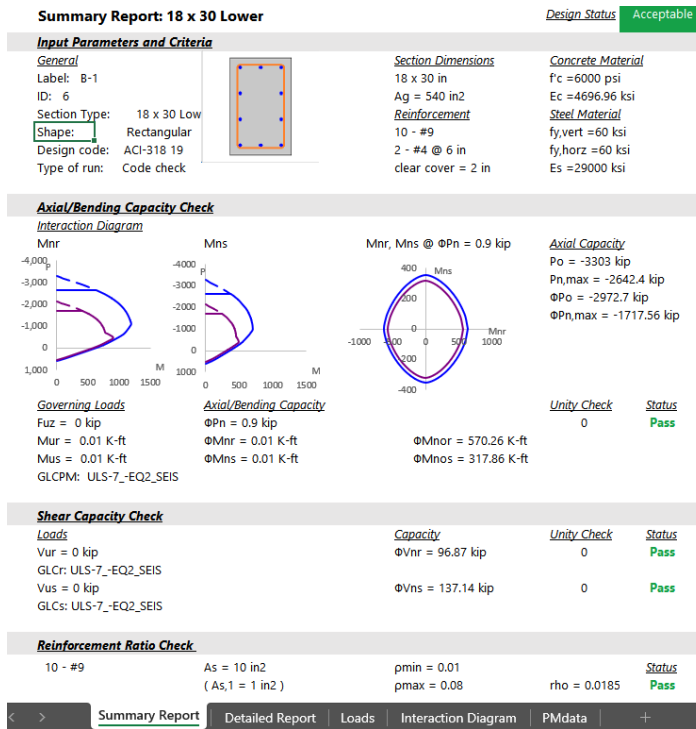

FIGURE 15-15
- To check results for an individual column assigned to the group, select any column that was checked, go to *Column Design* → *Reports* and click the **Detailed Report** icon. A full design summary produced as an XLS document will be opened as shown partially in **FIGURE 15-15**.